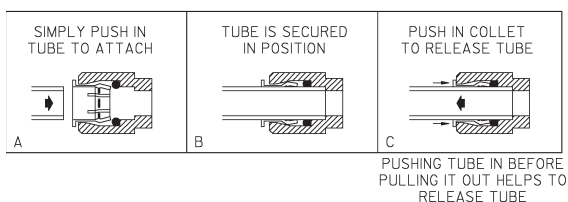

Figure 19 – Quick Connect Fittings
**Actuation of Quick Connect Water Fittings:** Cooler is provided with lead-free connectors which utilize an o-ring water seal. To remove tubing from the fitting, relieve water pressure, push in on the gray collar while pulling on the tubing (See Figure 19). To insert tubing, push tube straight into fitting until it reaches a positive stop (approximately 3/4").